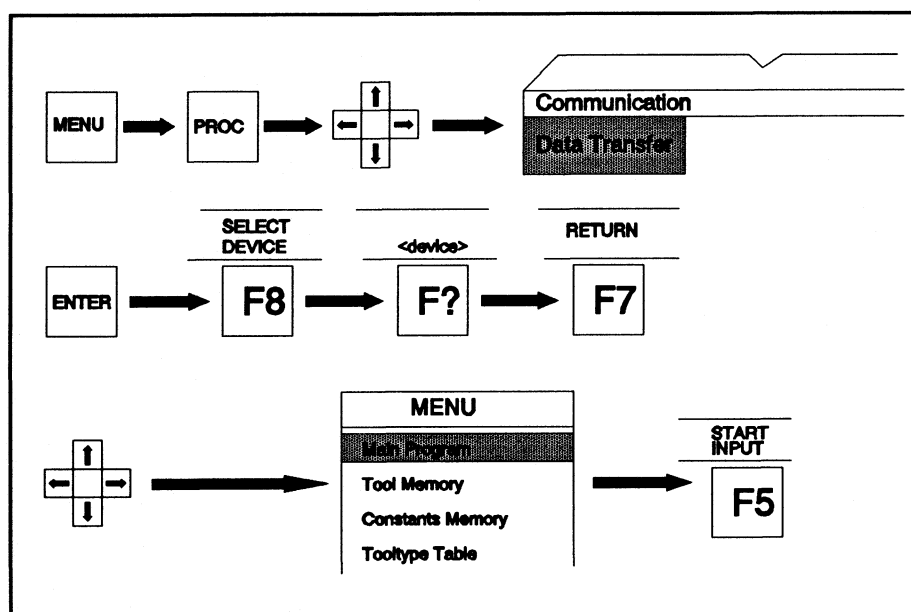

Figure 10.2: Receiving Memories
Receiving data passes memory data stored in an external device to the MANUAL PLUS. To transfer data to the MANUAL PLUS follow the sequence in Figure 10.2 below. The sequence given in Figure 10.2 below transfers the cycle programs to the MANUAL PLUS.
- To transfer the contents of individual memories, highlight the memory and follow the sequence in Figure 10.2 below. Memories which can be transferred are: